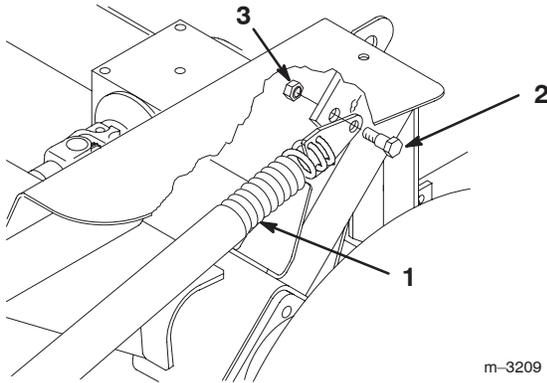

Figure 32
7. Install shoulder bolts (3/8 x 7/8 inch) and locknuts (3/8 inch) securing spring end plate assemblies to traction unit (Fig. 32).